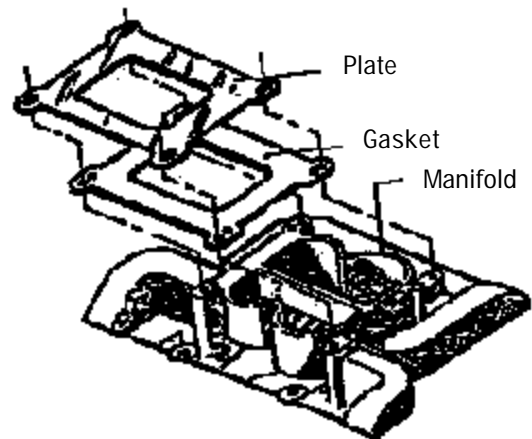

*Figure 1 - 318-360 c.i.d. Chrysler Intake Manifold Bolt Tightening Sequence and Firing Order
5. Torque all of the manifold bolts in two steps by the sequence shown in *Figure 1* to 25 ft./lbs.